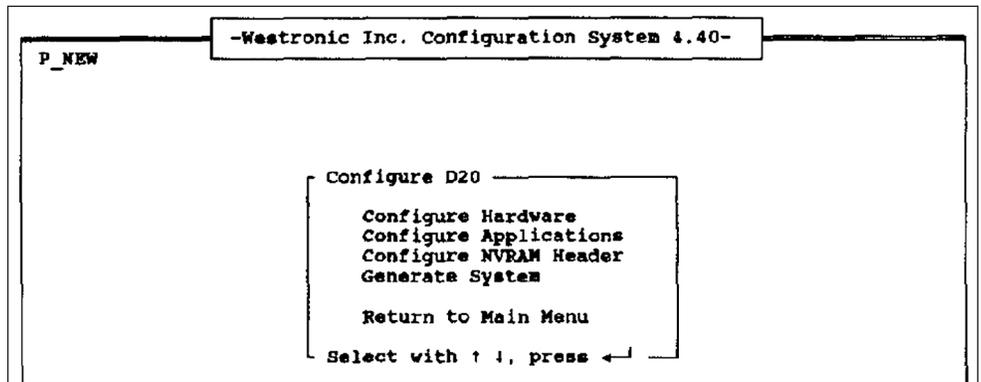

Figure 6. The *Configure D20* screen.
STEP 4. Using the arrow keys, select the **Configure D20** option and press the <ENTER> key. The *Configure D 20* screen will open. See Figure 6.